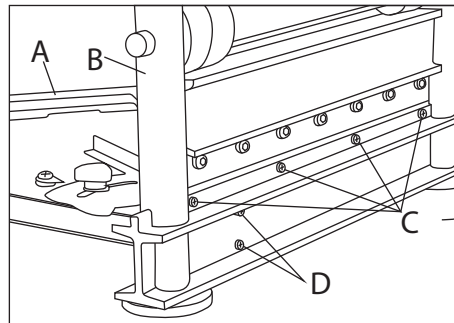

FIGURE 1
1. Attach the extended table base (Fig. 1-A) Fig.1 to the blade assembly (Fig. 1-B) using 4 small Phillips
head screws (Fig. 1-C). Use two larger philips head screws (Fig.1-D) to secure the table brace.